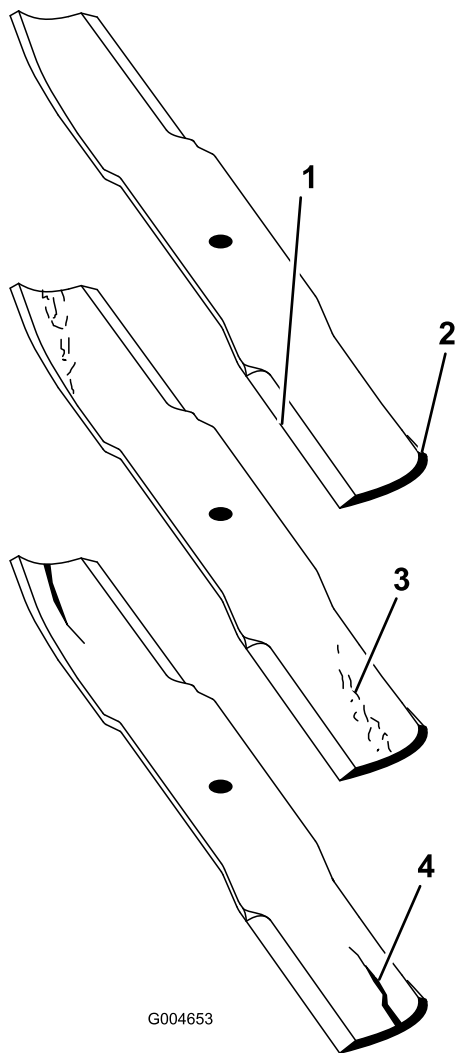

Figure 86
2. Examine the cutting ends of the blade carefully, especially where the flat and curved parts of the blade meet (Figure 86).
Note: Because sand and abrasive material can wear away the metal that connects the flat and curved parts of the blade, check the blade before using the mower. If wear is noticed (Figure 86), replace the blade.